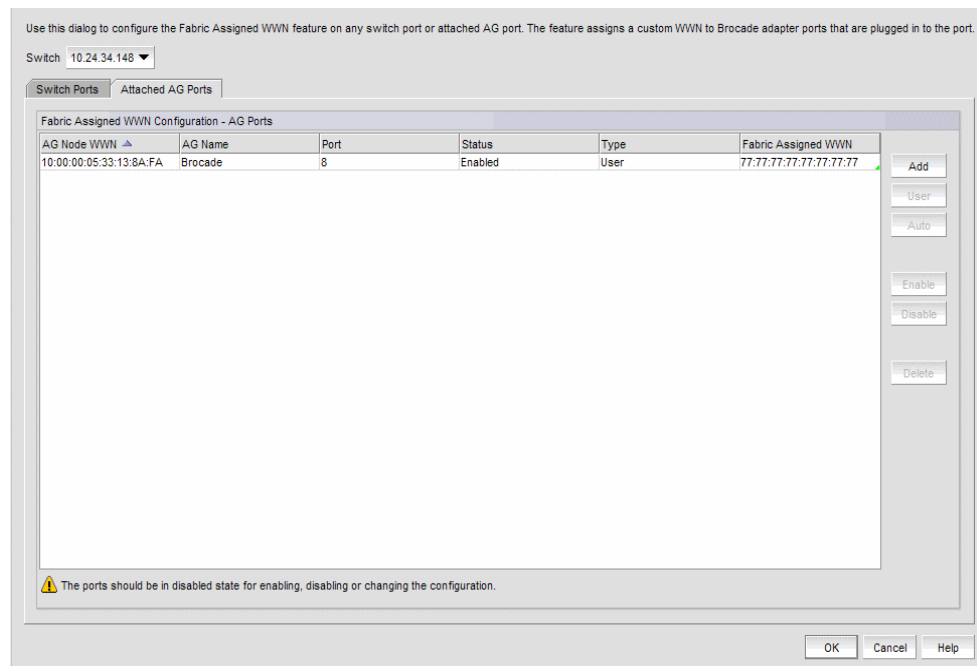

FIGURE 158 Configure Fabric Assigned WWNs dialog box--Attached AG Ports tab
The **Configure Fabric Assigned Assigned WWNs** dialog box, shown in Figure 158, enables you to configure the Fabric Assigned WWN feature on a selected attached Access Gateway (AG) port.